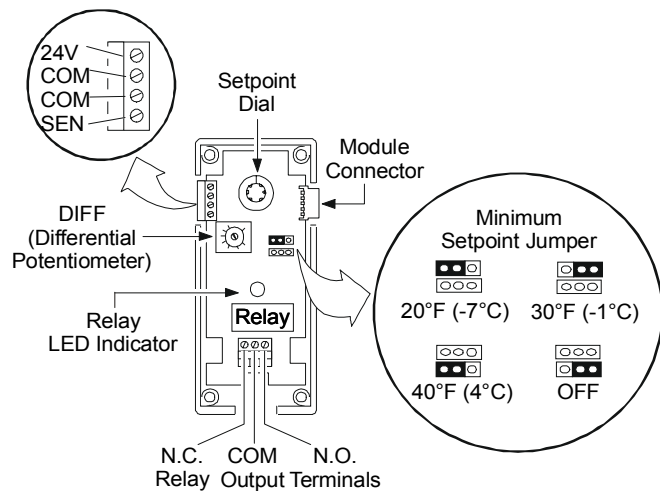
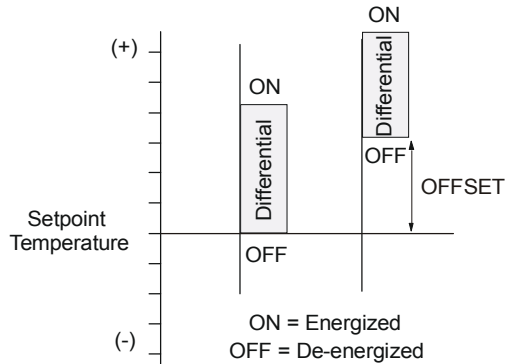

Figure 2: A350E Electronic Cooling Control Board Layout and Terminal Locations
Figure 3: Relationship Between Differential Setpoint and Offset
Setpoint is defined as the temperature at which the A350E's relay will de-energize. Refer to Figure 3. Use the Setpoint Dial on the front of the A350E to adjust setpoint. See Figure 2.
Four possible settings are available: 20°F (-7°C), 30°F (-1°C), 40°F (4°C), and Off. Refer to Figure 2 and use the jumper to select the desired minimum setpoint.
Differential is defined as the change in sensor temperature between the energization and de-energization of the relay. (See Figure 3.) The differential can be adjusted between 1 and 30F° (0.6 and 16.7C°). Adjustment is made using the differential potentiometer, marked DIFF. (See Figure 2 for location.)
Consult Figures 2, 5, and 6 for proper wiring configurations and terminal designations.
Shielded cable is not generally required for sensor wiring on runs of less than 50 ft (15.2 m), but is recommended for lengths greater than 50 ft (15.2 m). Connect the shield to the COM sensor terminal on the A350E. (See Figure 2 for terminal location.) Sensor A99BA-200, which includes a shielded cable, is available if needed.
- a. Connect a Digital Voltmeter (DVM) between the 24V (+) and COM (-) terminals located on the control's left side terminal block (Figure 2).